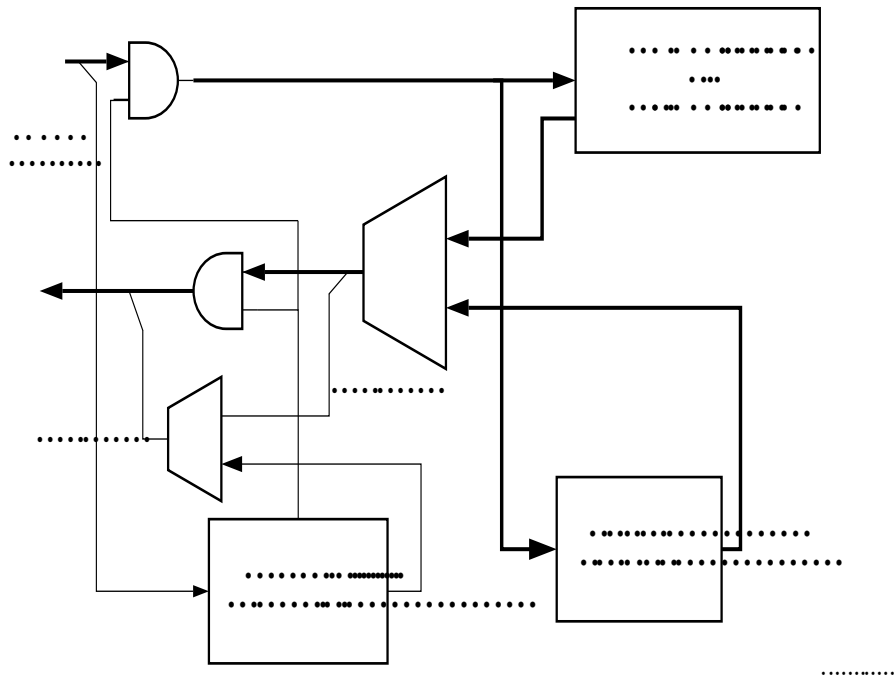

Figure 3-16: Core with Auto-Negotiation and Link Training
A block diagram of the 10G/25G Ethernet core with Auto-Negotiation (AN) and Link Training (LT) is shown in Figure 3-16.
When auto-negotiation and Link Training are complete, the datapath is switched to mission mode (the PCS), as shown in Figure 3-16.